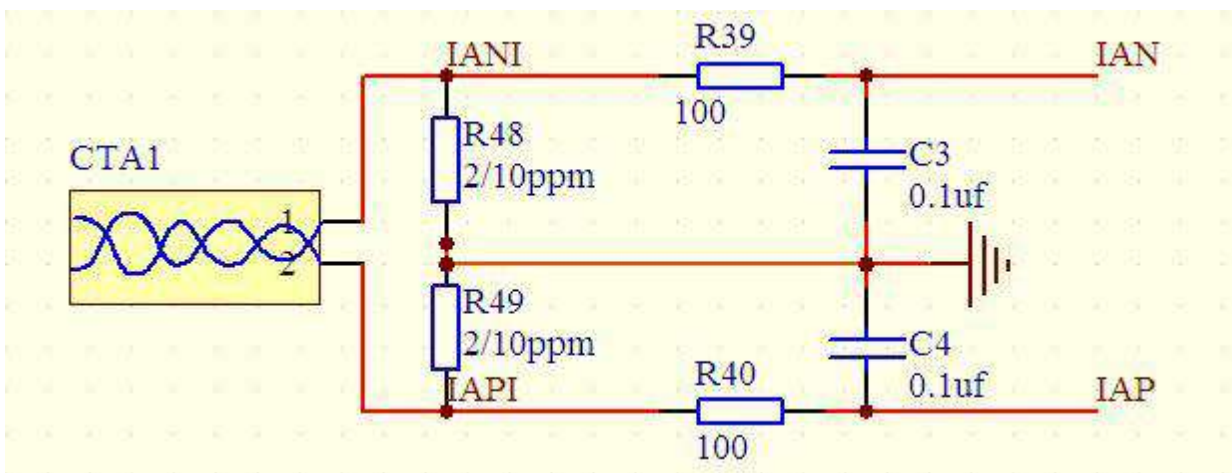

Figure 1-1 Ordinary CT Current Sampling Circuit Design
As shown in Figure 1-1: In this design, we use a CT of 1.5 (15) A. In the rated current, CT output current is 5mA. Through the sampling resistor, the sampling voltage is 20mV. In order to ensure that the signal does not overflow, there should be two sampling resistors and grounded in the middle.
It is recommended to use the parameters shown in Figure 1-1 as the resistor and capacitor parameters of RC filter. The temperature performance of sampling resistance directly determines the temperature performance of the entire meter. Therefore, it is necessary to select the resistors with small temperature coefficient.